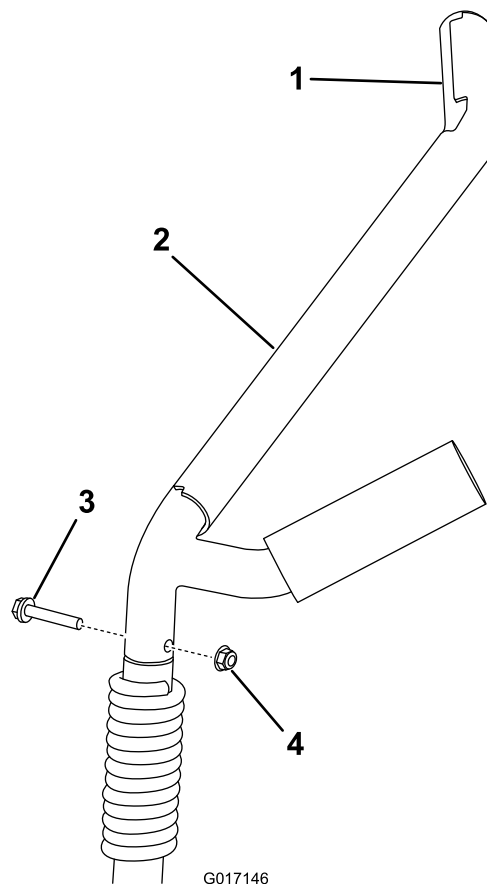

Figure 14
1. Remove the 2 boom-cradle arms by removing the bolt and nut (Figure 14).